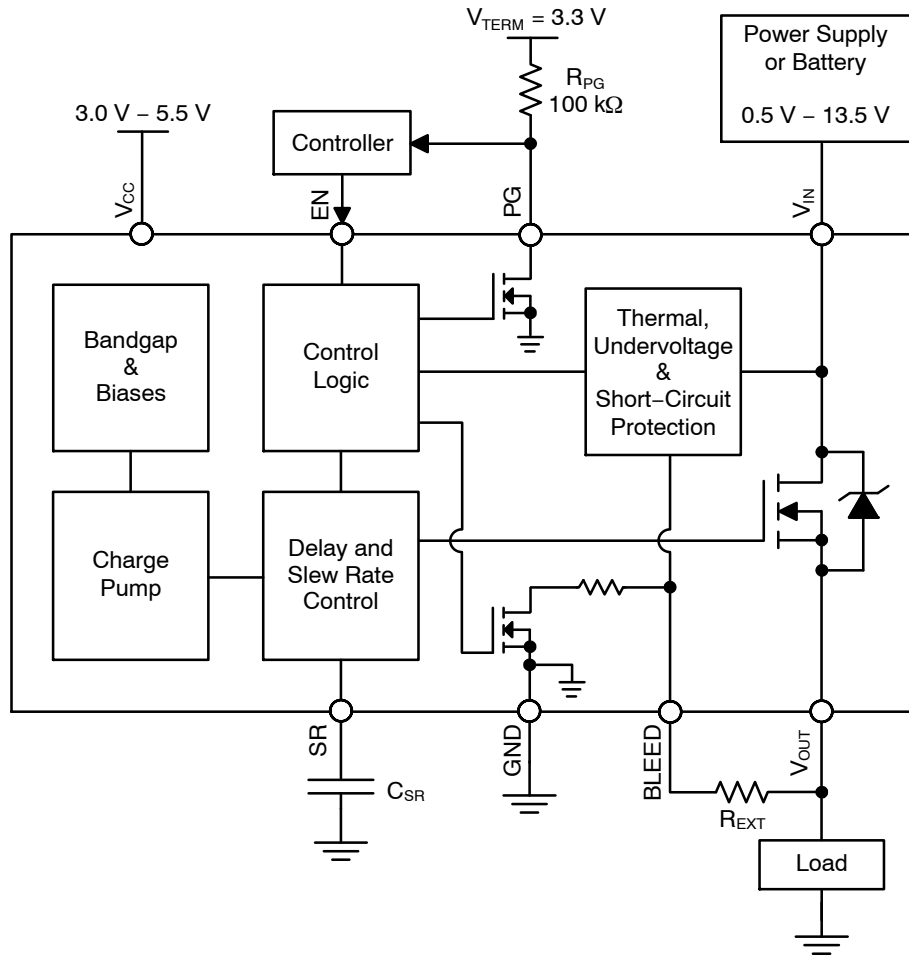
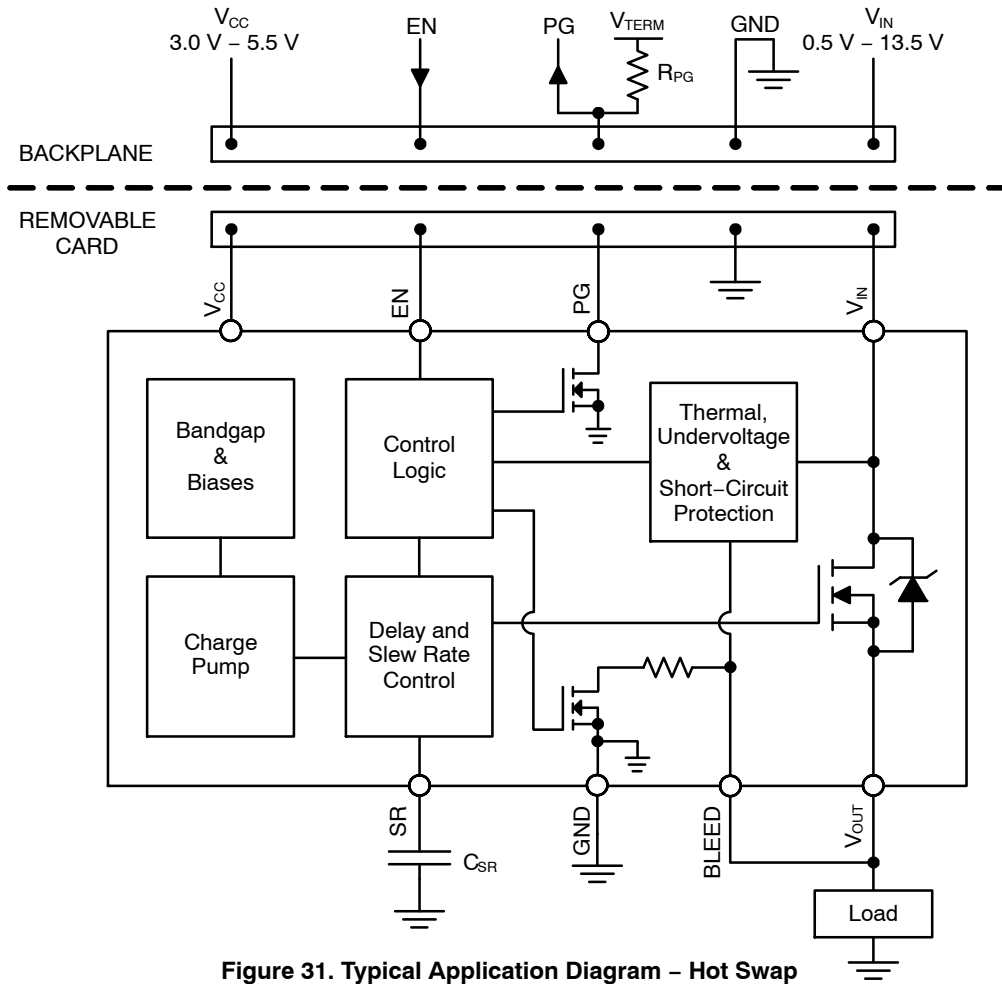

Figure 30. Typical Application Diagram – Load Switch
Figure 31. Typical Application Diagram - Hot Swap
It is required that the BLEED pin be connected to V_{OUT} either directly (as shown in Figure 31) or through an external resistor, R_{EXT} (as shown in Figure 30). R_{EXT} should not exceed 1 kΩ and can be used to increase the total bleed resistance.
The NCP45540 devices have a power good output (PG) that can be used to indicate when the gate of the MOSFET is fully charged. The PG pin is an active–high, open–drain output that requires an external pull up resistor, R_{PG}, greater than or equal to 1 kΩ to an external voltage source, V_{TERM}, compatible with input levels of other devices connected to this pin (as shown in Figures 30 and 31).
The slew rate can be decreased with an external capacitor added between the SR pin and ground (as shown in Figures 30 and 31). With an external capacitor present, the slew rate can be determined by the following equation:
Once active, the circuitry monitors the difference in the voltage on the V_{IN} pin and the voltage on the BLEED pin. In order for the V_{OUT} voltage to be monitored through the BLEED pin, it is required that the BLEED pin be connected to V_{OUT} either directly (as shown in Figure 31) or through a resistor, R_{EXT} (as shown in Figure 30), which should not exceed 1 kΩ. With the BLEED pin connected to V_{OUT}, the short–circuit protection is able to monitor the voltage drop across the MOSFET.